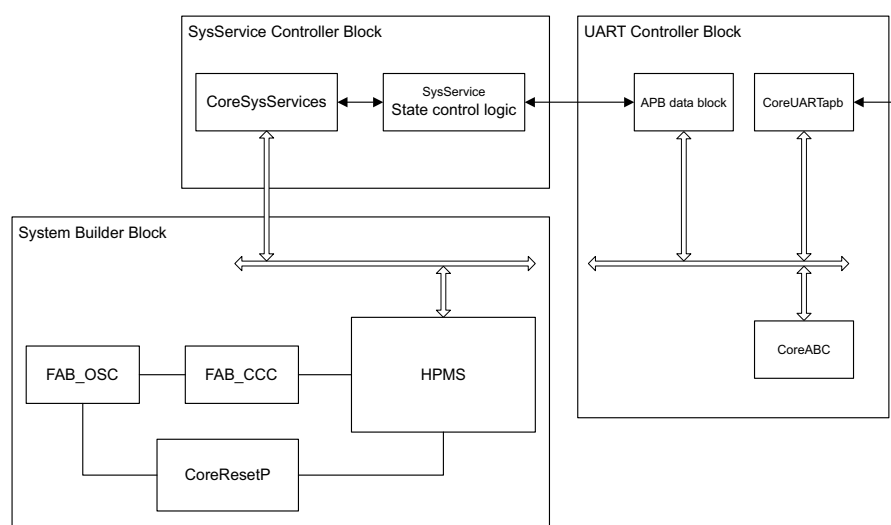
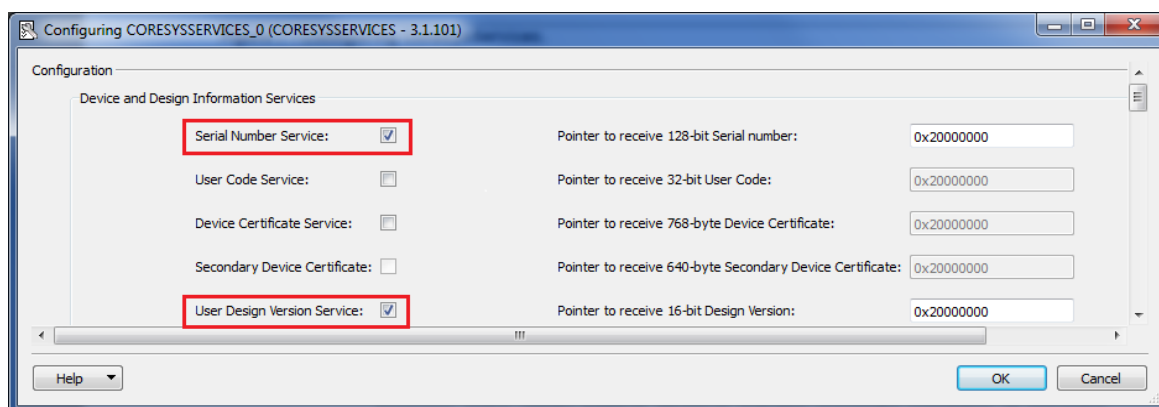
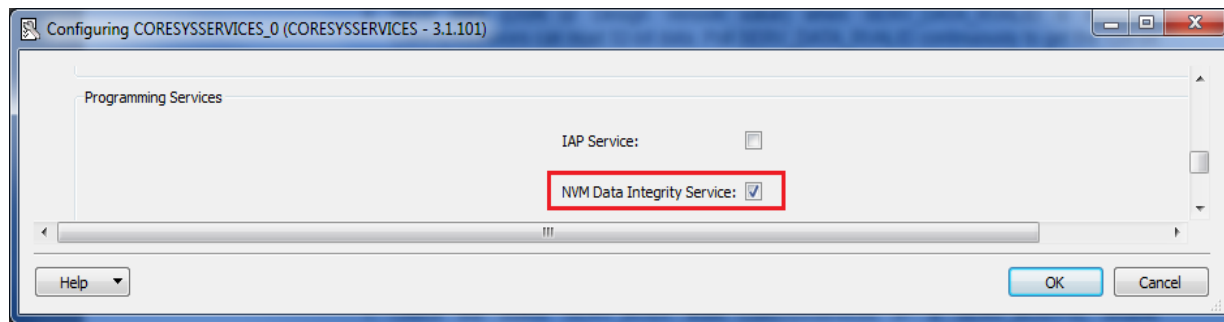

Figure 5 • Hardware Implementation Block Diagram
Figure 6 • Configuring CoreSysServices
Figure 7 • Configuring CoreSysServices.
Figure 5 shows the design block diagram. A 50 MHz RC oscillator is used as the clock source. It is used with CCC to provide a 100 MHz reference clock to the HPMS. This 100 MHz clock is used as the main clock for the fabric clocks. CoreRESETP generates reset signals for all the blocks. The CoreSysServices IP is configured to access the DSN, User Design Version, and NVM Data Integrity Check Services. Refer to Figure 6 and Figure 7 on page 10.
7. Connect the jumpers on the IGLOO2 Evaluation Kit, as shown in Figure 5 on page 12.